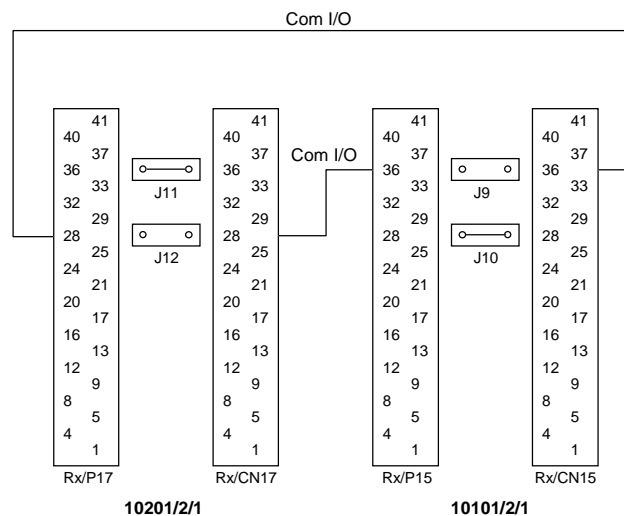

Figure 3 Example of 'Com I/O' configuration
**Example 1 (see Figure 3):** Configuration of 'Com I/O'.
- then: jumper J9 must be removed for the input 'Com I/O', jumper J12 must be removed for the output 'Com I/O', and two wires must be connected as shown in Figure 3.